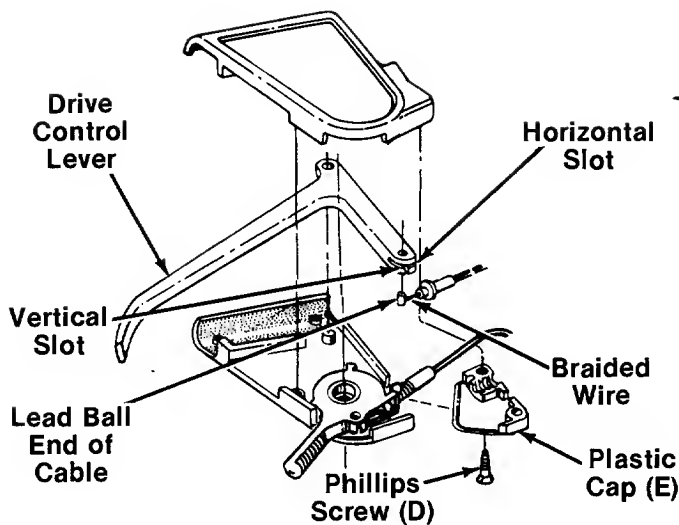

FIGURE 9.
- b. Slide the braided wire around in the horizontal slot. See figure 9.
- d. Secure the plastic cap (E) to the clutch control housing using the two Phillips head screws (D). See figure 9.